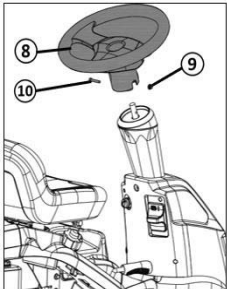
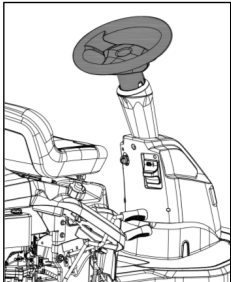

Figure 11
Figure 12
3. Install the steering wheel assembly to the designated position of the ride on mower according to the method shown in Figure 11, and the installation status is shown in Figure 12.